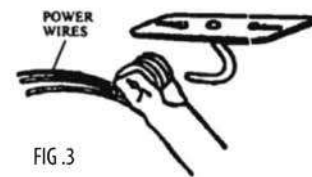

FIG.3
1. Being very careful not to damage wiring lift up fan assembly and engage rubber roller at approximate angle of 300 over hook as shown in Fig. 3.